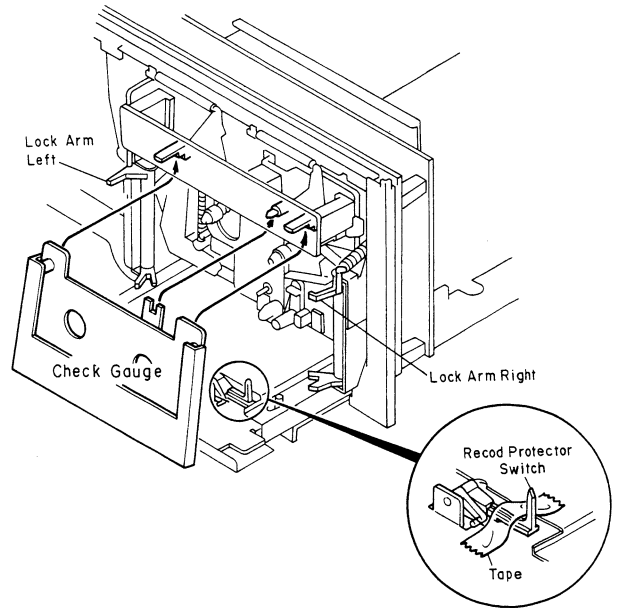

Fig. 2.2
- (2) **How to Load a Gauge**
- (a) Tape the Record Protector switch as shown in Fig. 2.2 to allow easy loading of a Gauge.